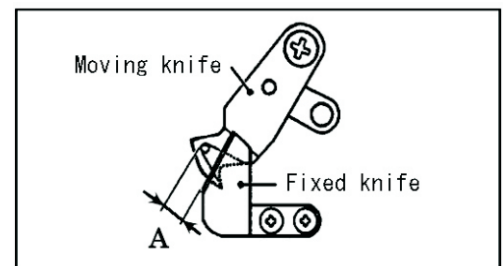

Fig.3
1. Measure the distance (A) between the fixed and moving knives when they have contacted each other by moving the knife connecting plate with your finger.(Fig. 3)
A = 2 to 3 mm (Fig. 3)